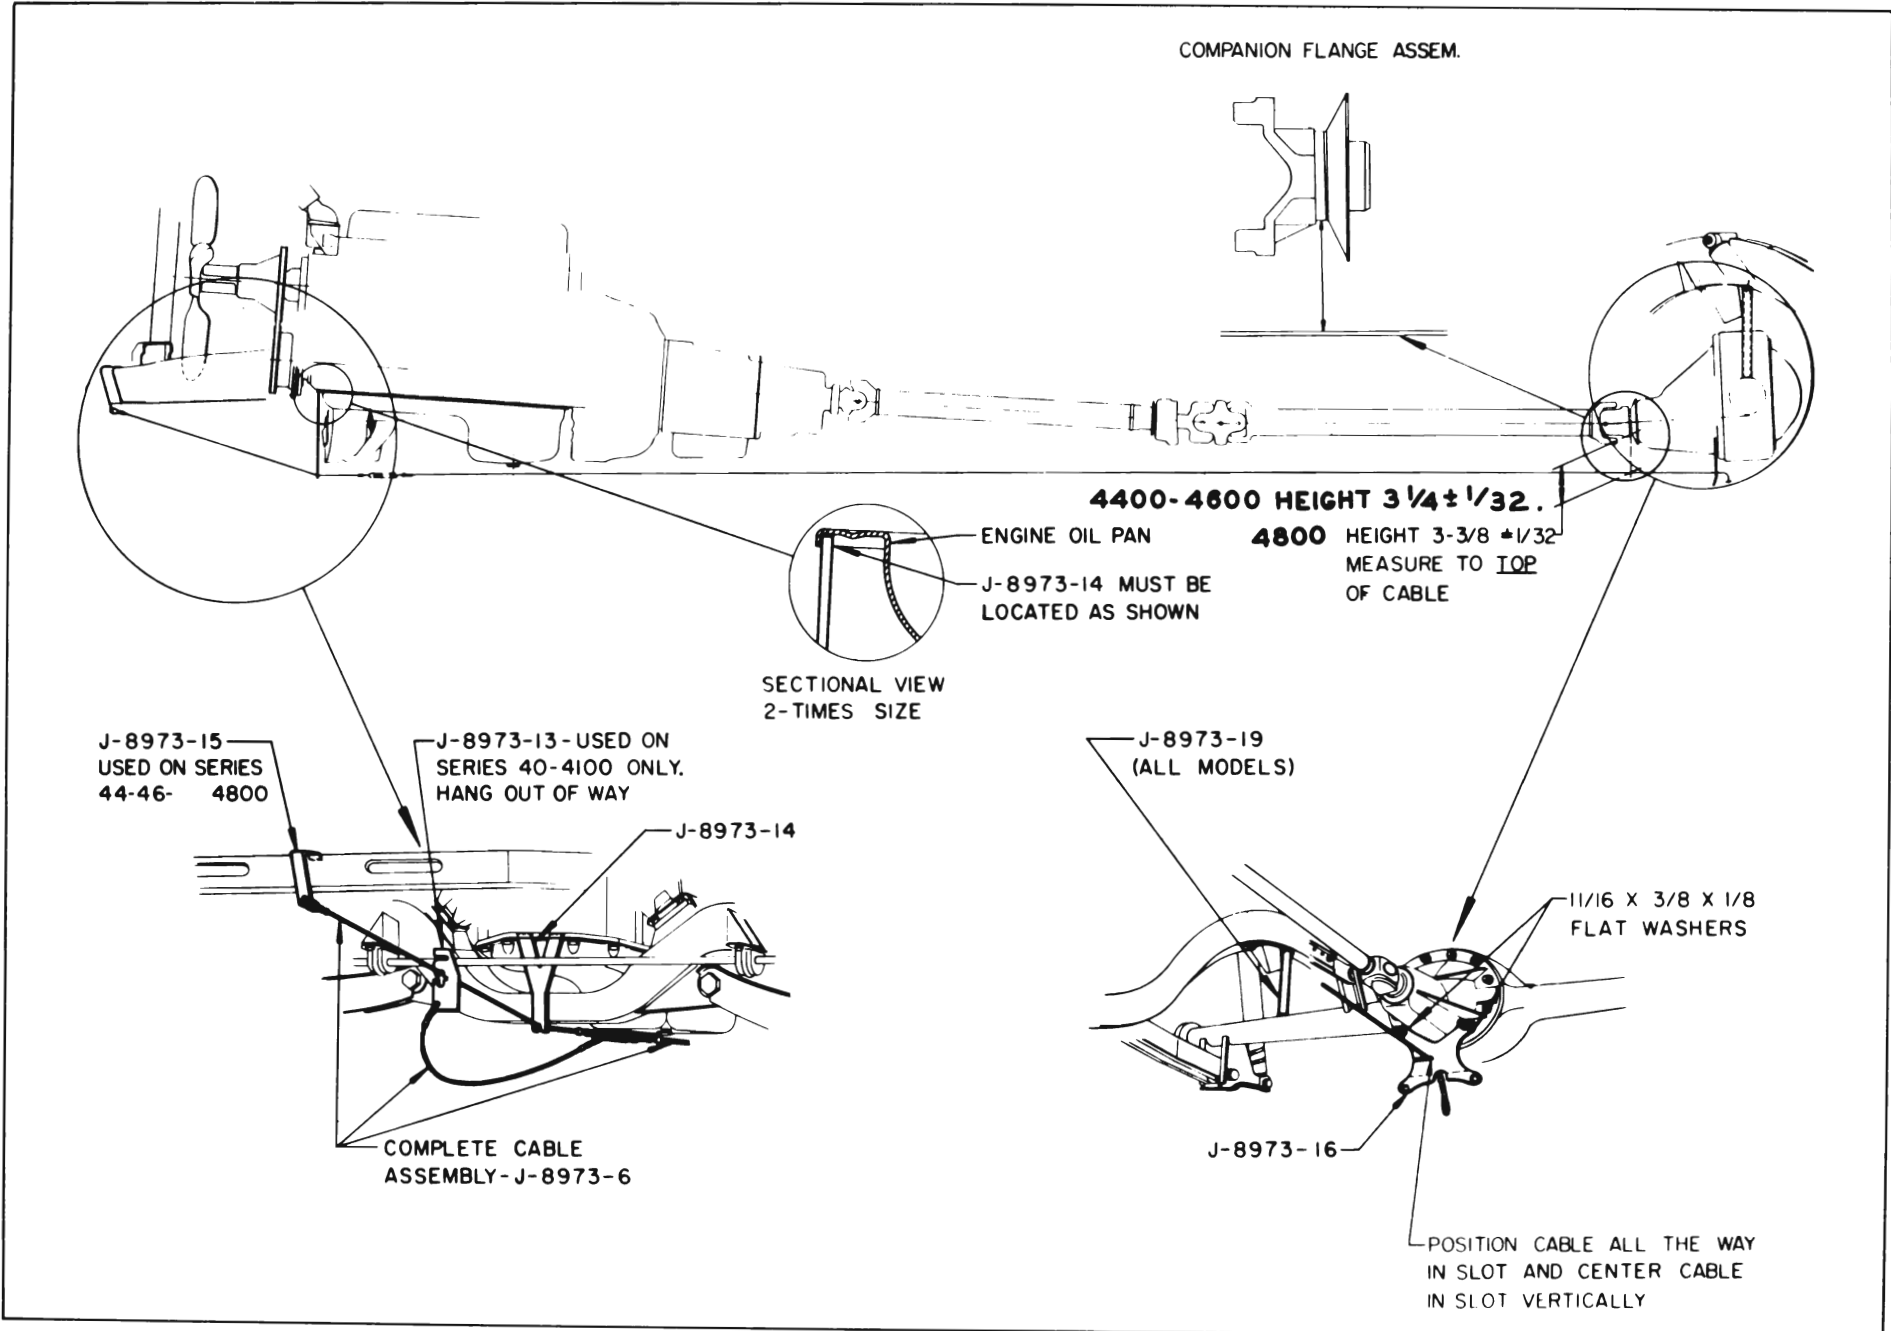

Figure 6-48—Checking Rear Universal Joint Angle
A simple method has been developed for measuring rear universal joint angle using a spring-loaded steel cable stretched between the front of the chassis and the rear axle carrier. When the rear universal joint angle is adjusted correctly, this steel cable will clear the underside of the pinion flange by a definite amount. Therefore, if this single direct measurement is within specified limits, the rear universal joint angle is correct; if this measurement is out of limits, the joint angle is not correct. See Figure 6-48.
1. Raise car, preferably on a drive-on hoist. Install Alignment Height Tubes J-8973-19 by raising the rear of the body slightly with one hand while inserting the upper end of the tube over the head of the axle bumper rear bolt, with the lower end resting on the axle housing. See Figure 6-48. If the body does not come down firmly on the tubes, add weight in the trunk until the tubes are held tightly.
2. Remove two differential carrier mounting nuts, one on each side of the lowest nut. Install two special flat washers over studs, then install Rear Bracket J-8973-16 with bent edge toward front and slot to the right, using nuts just removed. See Figure 6-48.
vertically with wide end centered against front flange of engine pan. Pull cable down and place in lower notch of plate. See Figure 6-48.